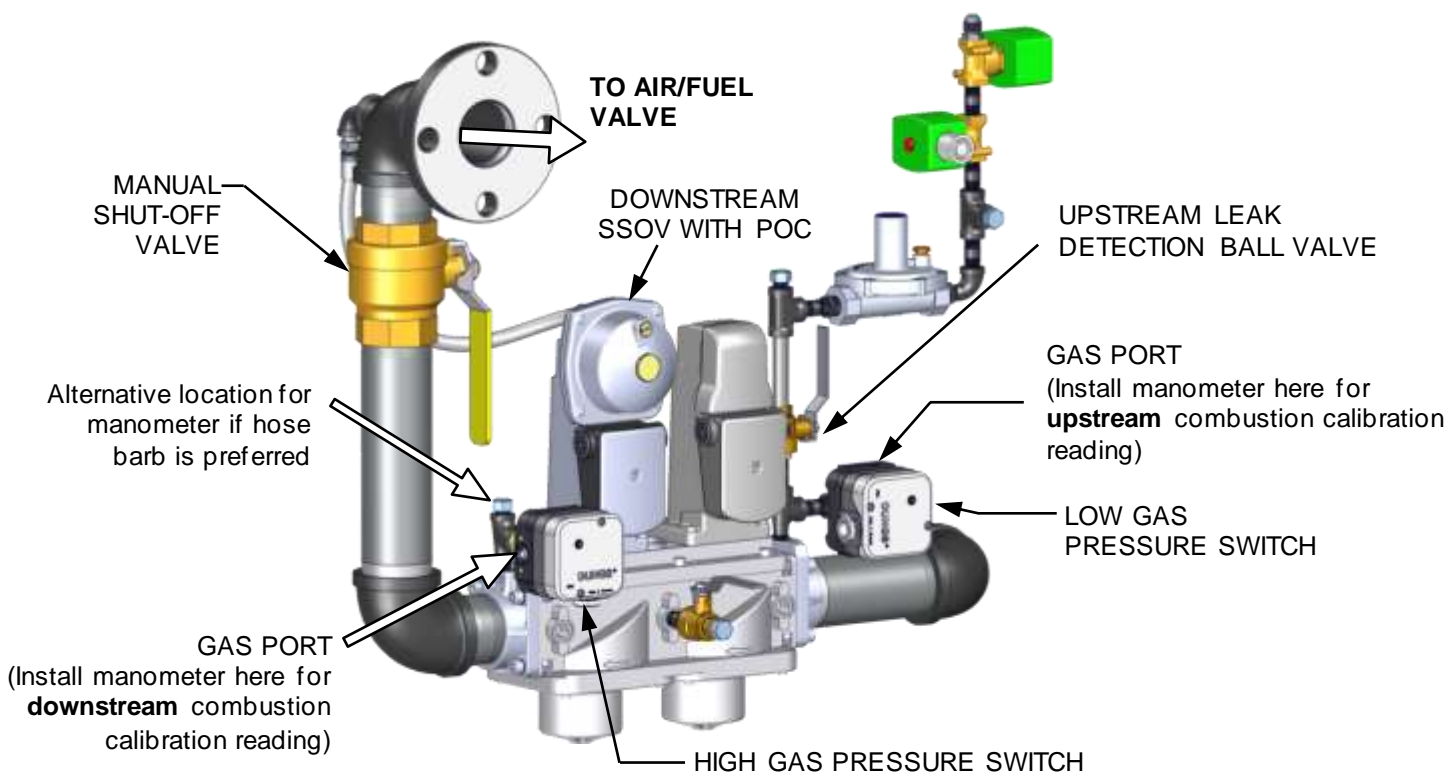

Figure 4-1f: Port Location for Combustion Calibration – BMK5000-6000
3. Connect the manometer directly to the Low and High Gas Pressure Switches, as in Figure 4-1f.